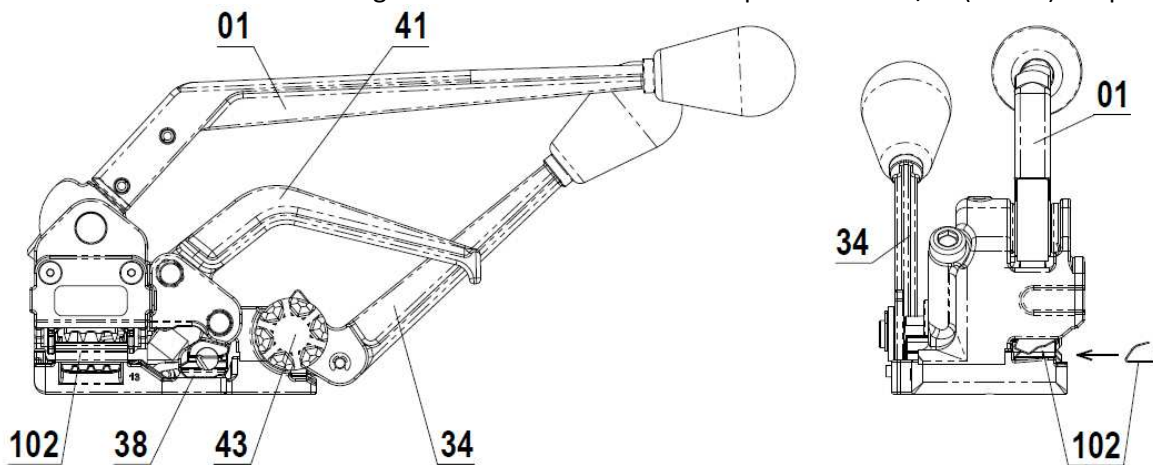

Fig. 2
1. Load a **Seal 102** as shown on Fig. 2. For MUL-341 use ST-340 open seals for 1/2" (12mm) strap.